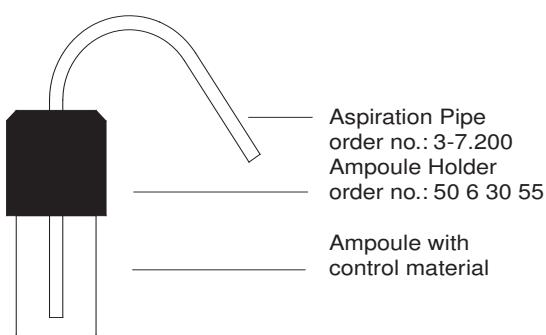

Figure 15 Aspiration Pipe
For input of Quality Control material from ampoules, the use of a special **ESCHWEILER Aspiration Pipe** (order no. 50 6 30 50) is necessary (see figure 15. Aspiration Pipes are included in the accessories of the Combiline.
- Put the Aspiration Pipe with Ampoule Holder over the ampoule as shown in the figure 15 and immediately introduce the control into the analyser according to the following instruction.